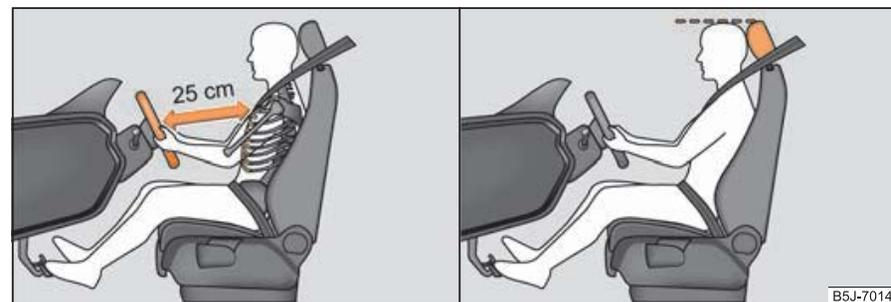

Fig. 109 The correct distance of the driver from the steering wheel/The correct head restraint adjustment for the driver
- Adjust the steering wheel so that the distance between the steering wheel and your chest is at least 25 cm ⇒ fig. 109 - left.
- Adjust the head restraint so that the top edge of the head restraint is at the same level as the upper part of your head ⇒ fig. 109 - right.
- The driver must maintain a distance of at least 25 cm to the steering wheel ⇒ page 110, fig. 109. Not maintaining this minimum distance will mean that the airbag system will not be able to properly protect you - hazard!
- Adjust the head restraint so that the top edge of the head restraint is at the same level as the upper part of your head ⇒ page 110, fig. 109 - right.
- Adjust the head restraints so that the top edge of the head restraints is at the same level as the upper part of your head ⇒ page 110, fig. 109 - on the right.